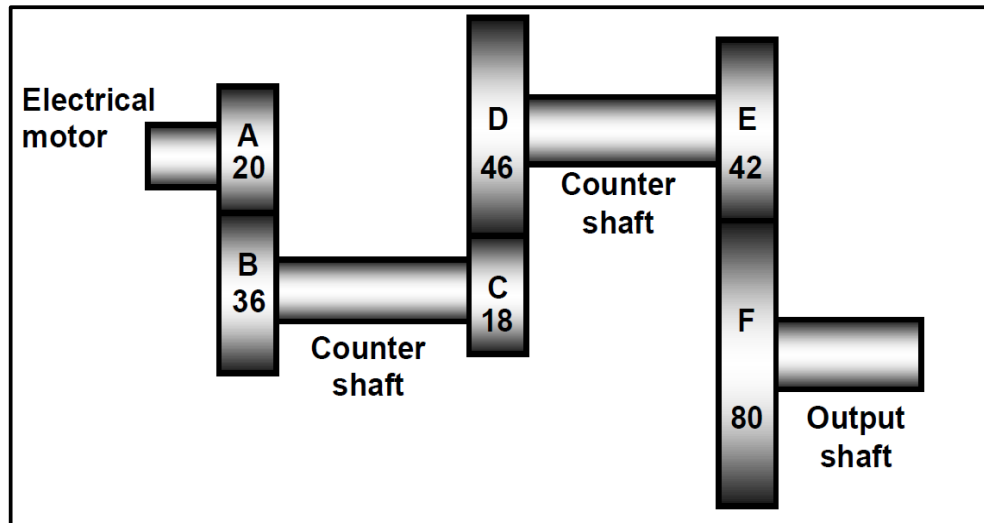

FIGURE 11.6
- 11.6 FIGURE 11.6 below shows a gear-drive system. A driver gear on the shaft of an electric motor has 20 teeth and meshes with a gear on a counter shaft with 36 teeth. On this counter shaft is another driver gear with 18 teeth that meshes with a gear with 46 teeth on a second counter shaft. The second counter shaft has a driver gear with 42 teeth which drives a gear with 80 teeth on the output shaft.